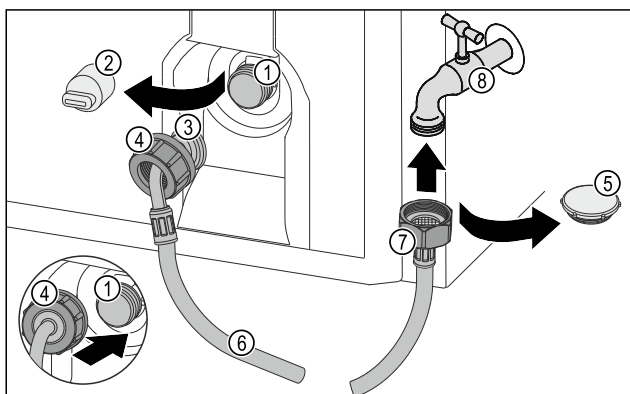

Fig. 74
- Remove the closure cap Fig. 74 (5).
- Place the straight end of the hose Fig. 74 (7) on the tap Fig. 74 (8).
- Tighten the nut at the straight end of the hose Fig. 74 (7) in a clockwise direction.